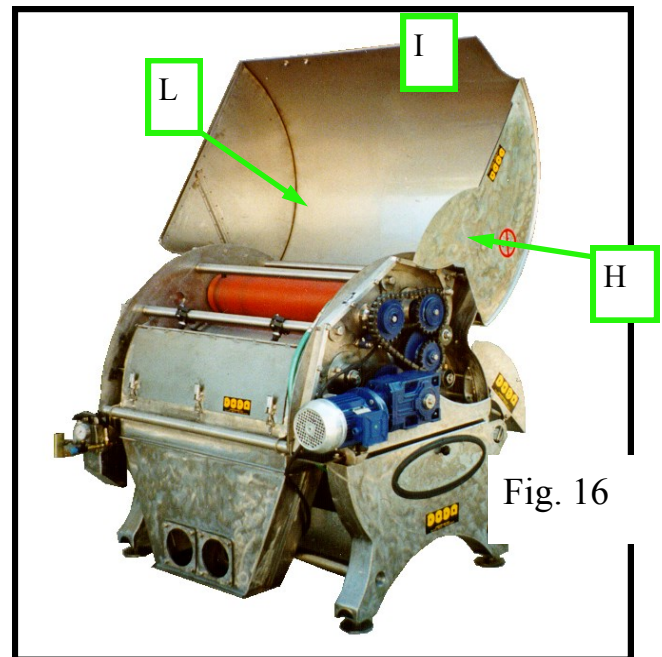

Fig. 16
-Lift protection **I** **fig. 16** and grease side driving chains **H** on both sides.
- lift protection **I** fig. 16.